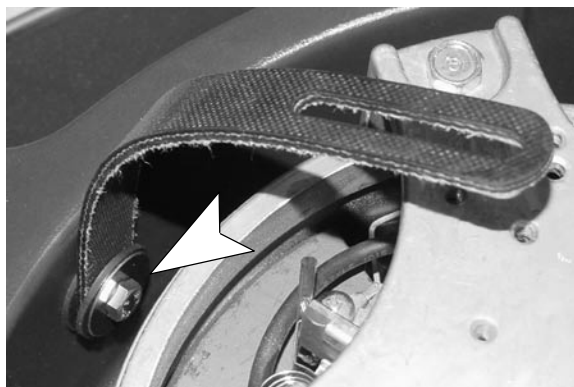

Fig. 4
5. Fasten the new strap to the base housing as shown, 10mm wrench required (Figure 4). Rubber side of strap should face upward as shown.